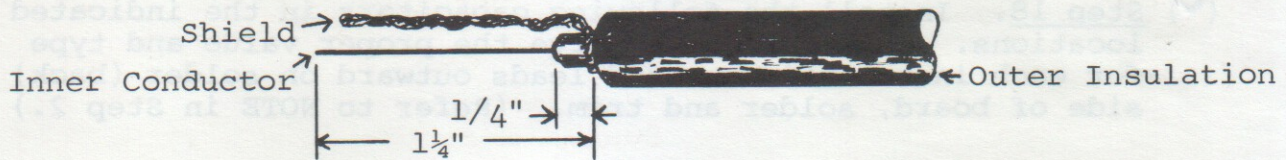

Figure 3-4. Coaxial cable preparation.
- (✓) Step 21. Install coaxial cable, composite video output. (See Figure 3-4 for details on how to prepare cable.)